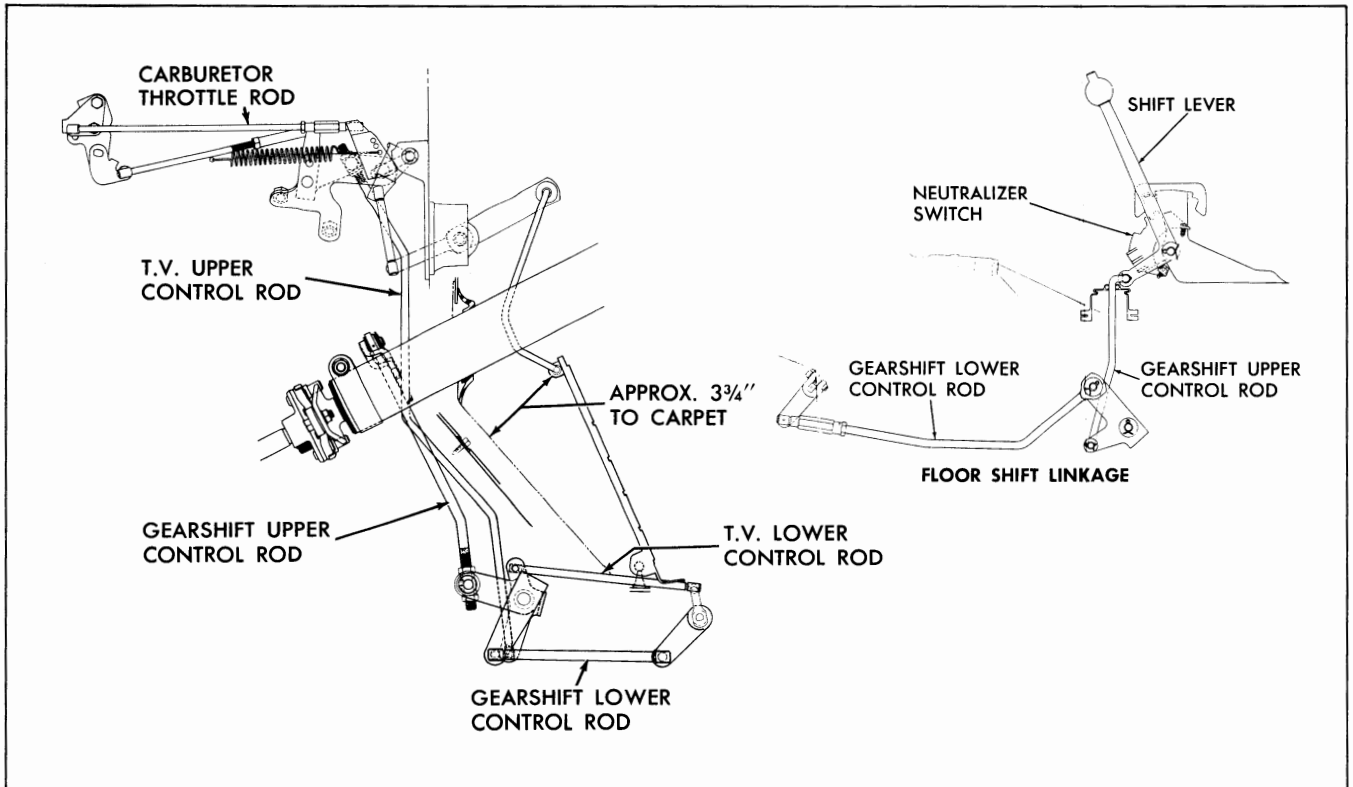

Fig. 7D-42 Accelerator and Gearshift Linkage
1. Put upper shift control lever and transmission lever in park P position and, with the gearshift upper control rod trunnion nuts (Fig. 7D-42) backed clear of the trunnion, pull the control rod down toward the transmission as far as possible. While holding rod in this position, run the trunnion upper nut down to just contact the trunnion. Run lower nut up to contact trunnion and lock nuts securely.